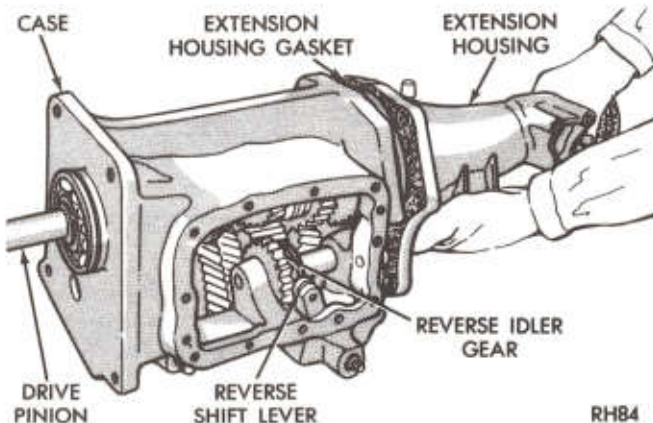

Fig. 15—Remove or Install Extension Housing and Mainshaft Assembly
(9) Using a brass drift, tap the pinion and bearing assembly forward and remove through front of case.
(10) Slide third and overdrive (O/D) synchronizer sleeve slightly forward, slide reverse idler gear to center of its shaft, then using a soft-faced hammer, tap on extension housing (in a rearward direction). Slide housing and mainshaft assembly out and away from the case (Fig. 15).